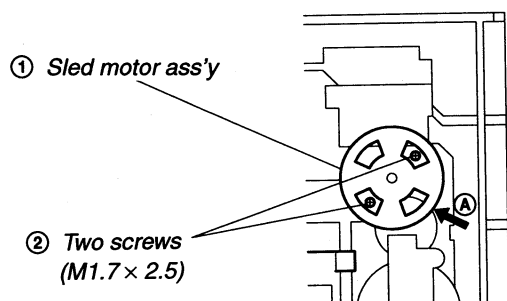

Fig. 8
- 1) Push the sled motor ass'y ① toward direction ④. (See Fig.8)
- 2) Tighten two screws ② (M1.7 × 2.5).